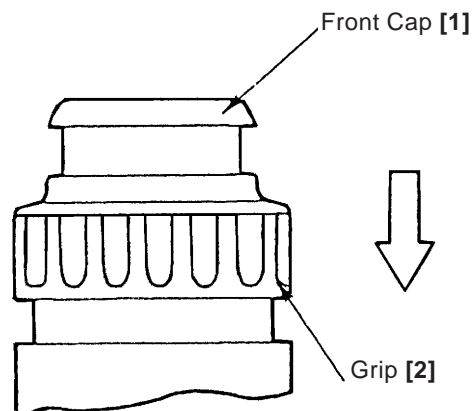

Fig. 4
(3) Disassembly of the Chuck Section
As shown in Fig. 4, slide the Grip [2] in the direction indicated by the arrow, and remove the Front Cap [1]. The Grip [2], the Ball Holder [3] inside the Grip, the Holder Spring [4], Washer (B) [5] and the Steel Ball [21] can then be removed from the Cylinder [23].